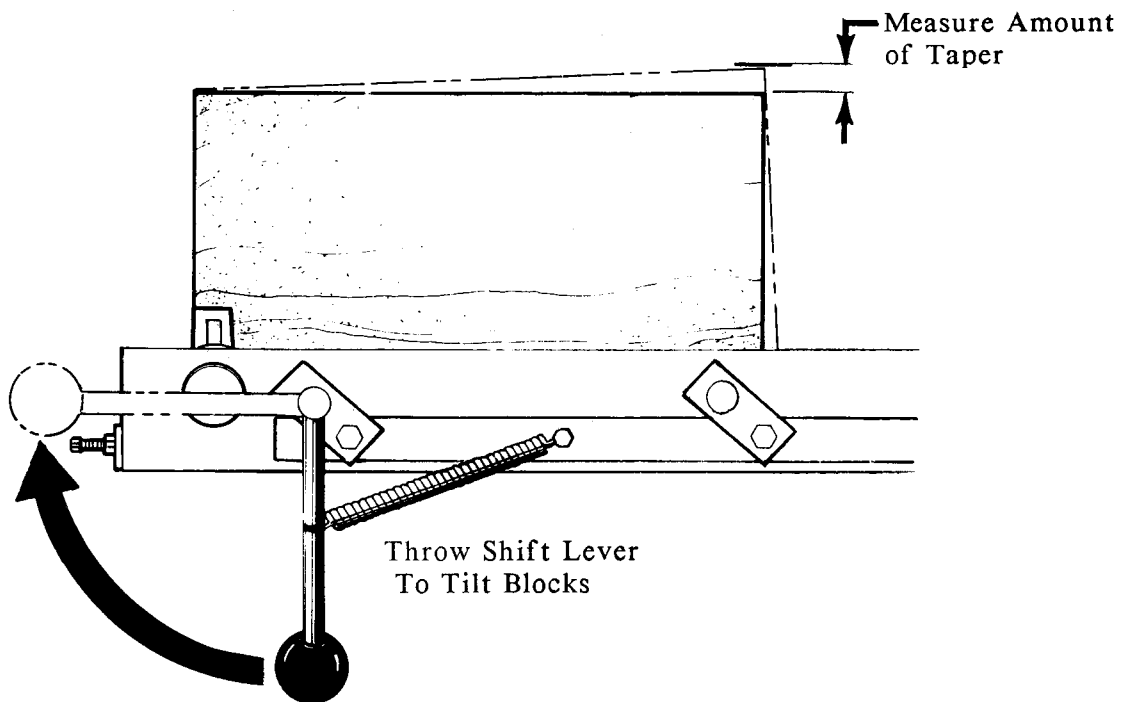

FIGURE 3
4. To adjust the amount of taper on the shingles, push the shift lever down and lower the blade to the top of the back edge of the first block (See Figure 3). Raise the shift lever until it hits the shift adjustment bolt. Measure the amount of drop to determine the taper. Adjust the shift adjustment bolt to change amount of taper (a shorter lever throw produces less taper).